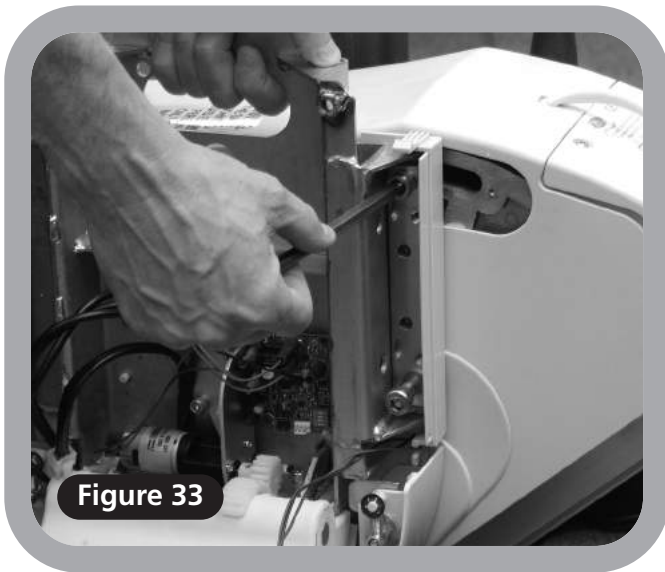

Figure 33
- 4 Offer the seat chassis to the power unit, and using the bolts and spacers secure the seat chassis to the power unit, ensuring that the chassis is in the correct vertical alignment (**Figure 33**).